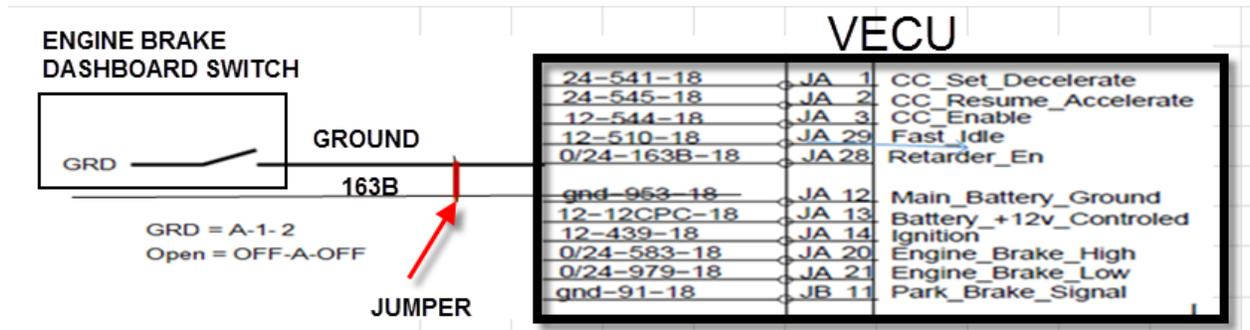

FIGURE 40
1. Install a jumper cable between the engine brake dashboard switch ground wire and circuit 163B. (FIGURE 40). Doing this will keep the engine brake switch activated.